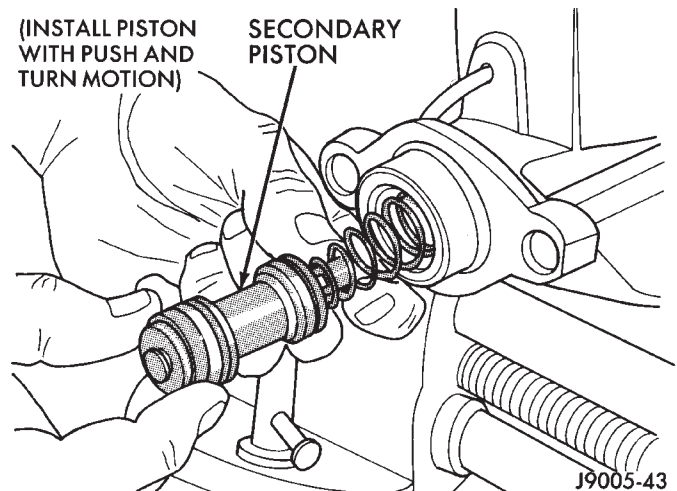

Fig. 5 Installing Secondary Piston
- (1) Coat cylinder bore and new piston assemblies with brake fluid.
- (2) Install secondary piston in bore with push and turn motion (Fig. 5). **Do not use any tools to start seals into bore. Tools can cut seal and scratch bore.**